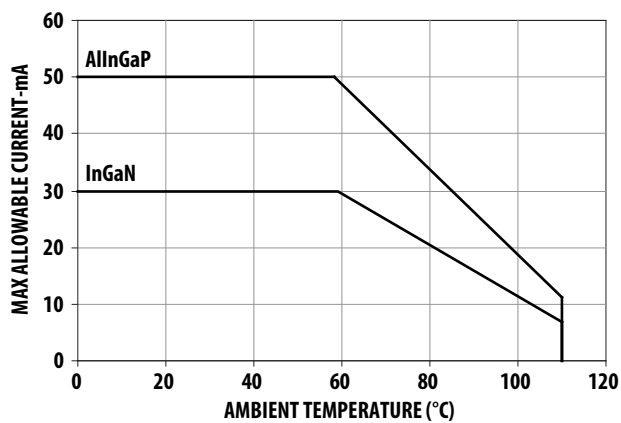
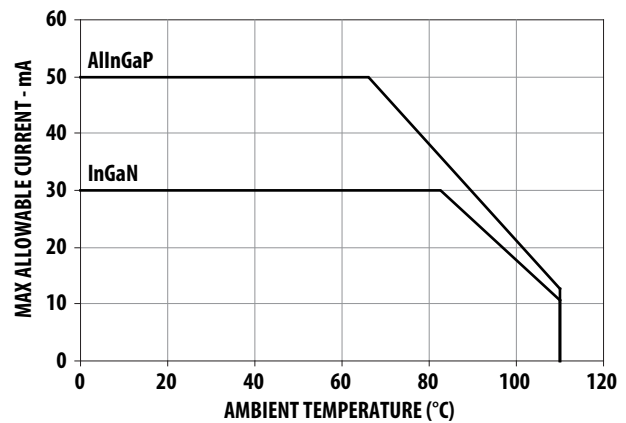

Figure 4a. Maximum forward current vs. ambient temperature. Derated based on  $T_{JMAX} = 125^{\circ}C$ . (3 chips)
Figure 4b. Maximum forward current vs. ambient temperature. Derated based on  $T_{JMAX} = 125^{\circ}C$ . (single chip)
1. Derate linearly as shown in Figure 4a & 4b.
4. Refer to Figure 4a and figure 4b for more information